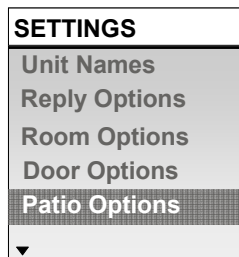
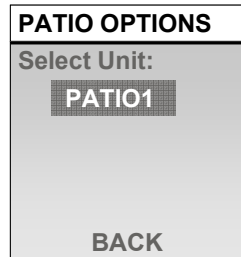
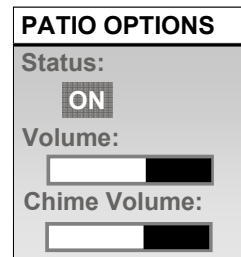
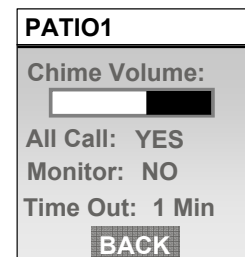

Figure 30
Figure 31
Figure 32
Figure 33
These options may be configured by the Integrator or homeowner from any Room Unit in the house. The Patio Options are specific only to the selected Patio Unit. Select “Patio Options” from the Settings screen (see **Figure 30**) and use the talk/select and arrow buttons to select which Patio Unit you would like to configure (see **Figure 31**). The first setting “Status:” see **Figure 32**) determines whether that Patio Unit is enabled (ON) or disabled (OFF). This is a handy feature for disabling the Patio Unit at night or while you are away. The “Volume:” option determines the default volume level at that particular Patio Unit. The “Chime Volume:” option determines the default volume level of Door Tones played at that particular Patio Unit when someone pushes the doorbell button on a Door Unit. The “All Call:” option (see **Figure 33**) enables (YES) or disables (NO) the broadcast page ability from that Patio Unit. The “Monitor:” option enables (YES) or disables (NO) the Monitor button on that particular Patio Unit. The “Time Out:” option is used to determine how quickly the Patio Unit button backlights goes to sleep after inactivity (1 minute – default, 5 minutes, or 10 minutes).